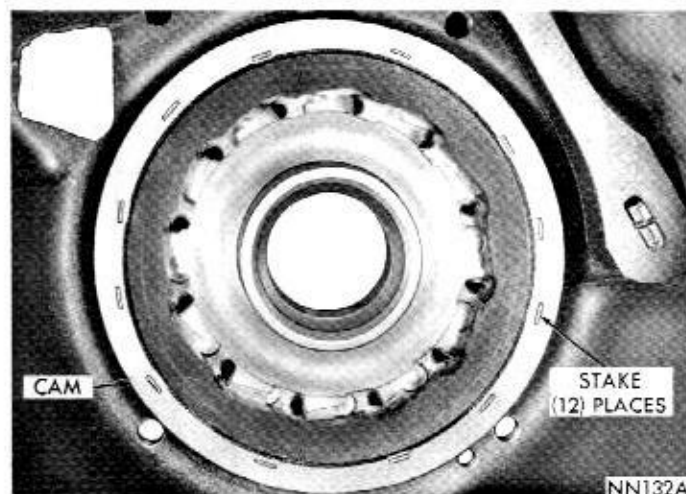

Fig. 80—Overrunning Clutch Cam Staked (A-727)
(7) Remove cam installing tool. Install and tighten support retaining screws to 140 inch-pounds. Stake the case around cam in twelve places with a blunt chisel (Fig. 80).